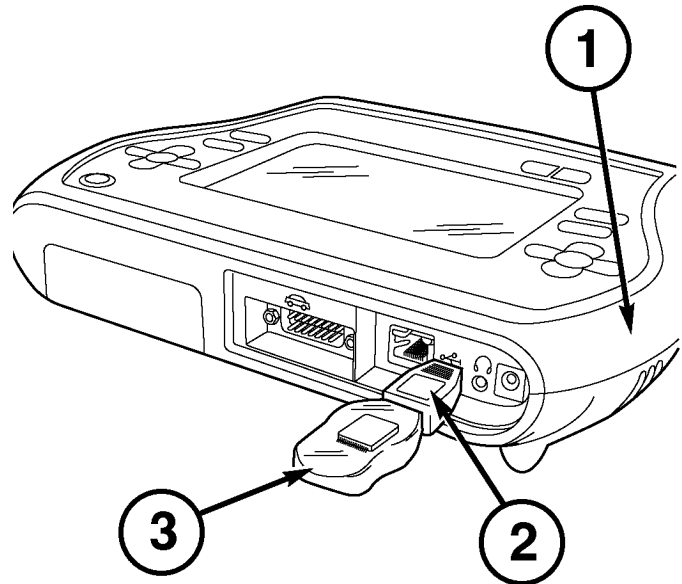

FIGURE 2
9. With the StarSCAN powered OFF, connect the USB Key and adapter to the StarSCAN USB port (Figure 2).